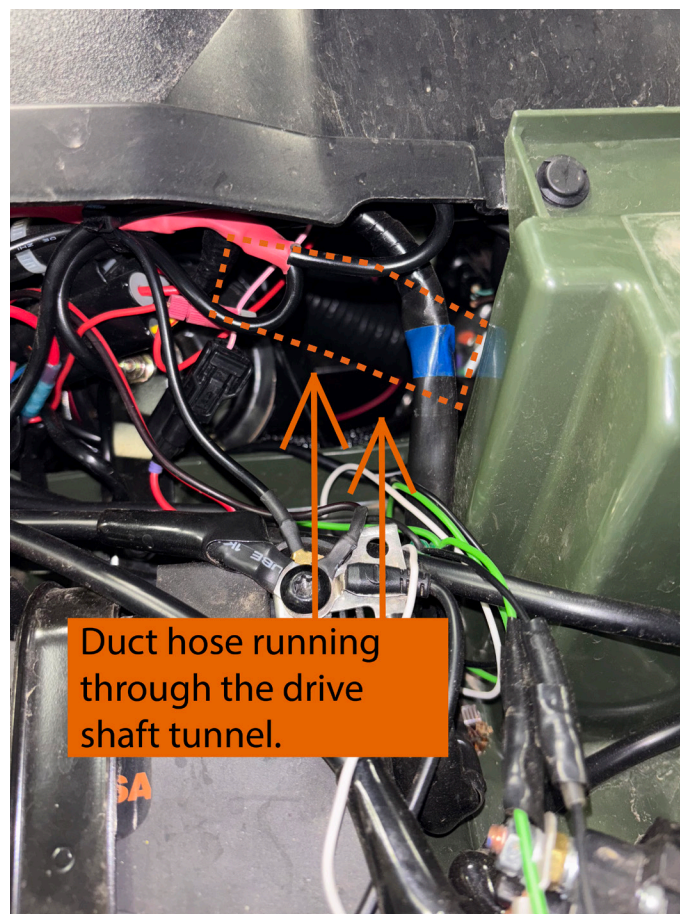

FIGURE 5
13. Route the hose through the hole in the firewall, where the rubber flap was, and route it into the drive shaft tunnel. FIGURE 5